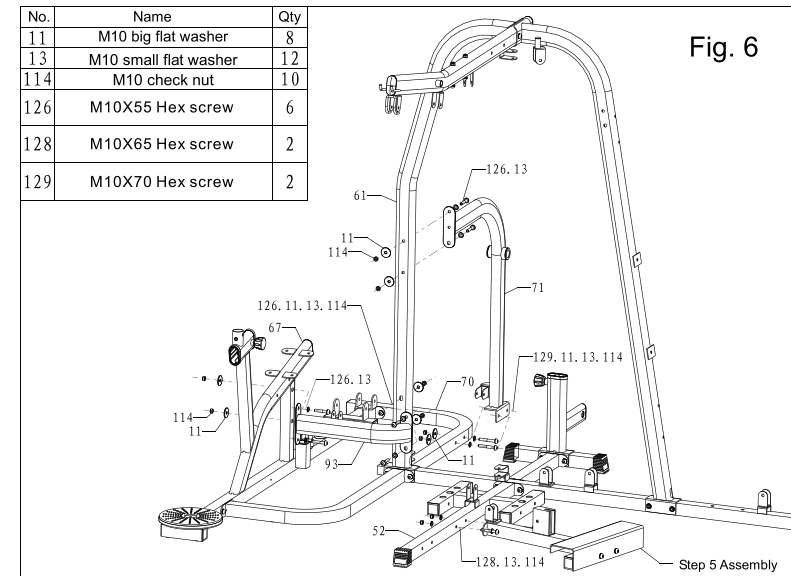

Fig. 6
Step 6: pushing arm assembly installation (as shown in Fig. 6)